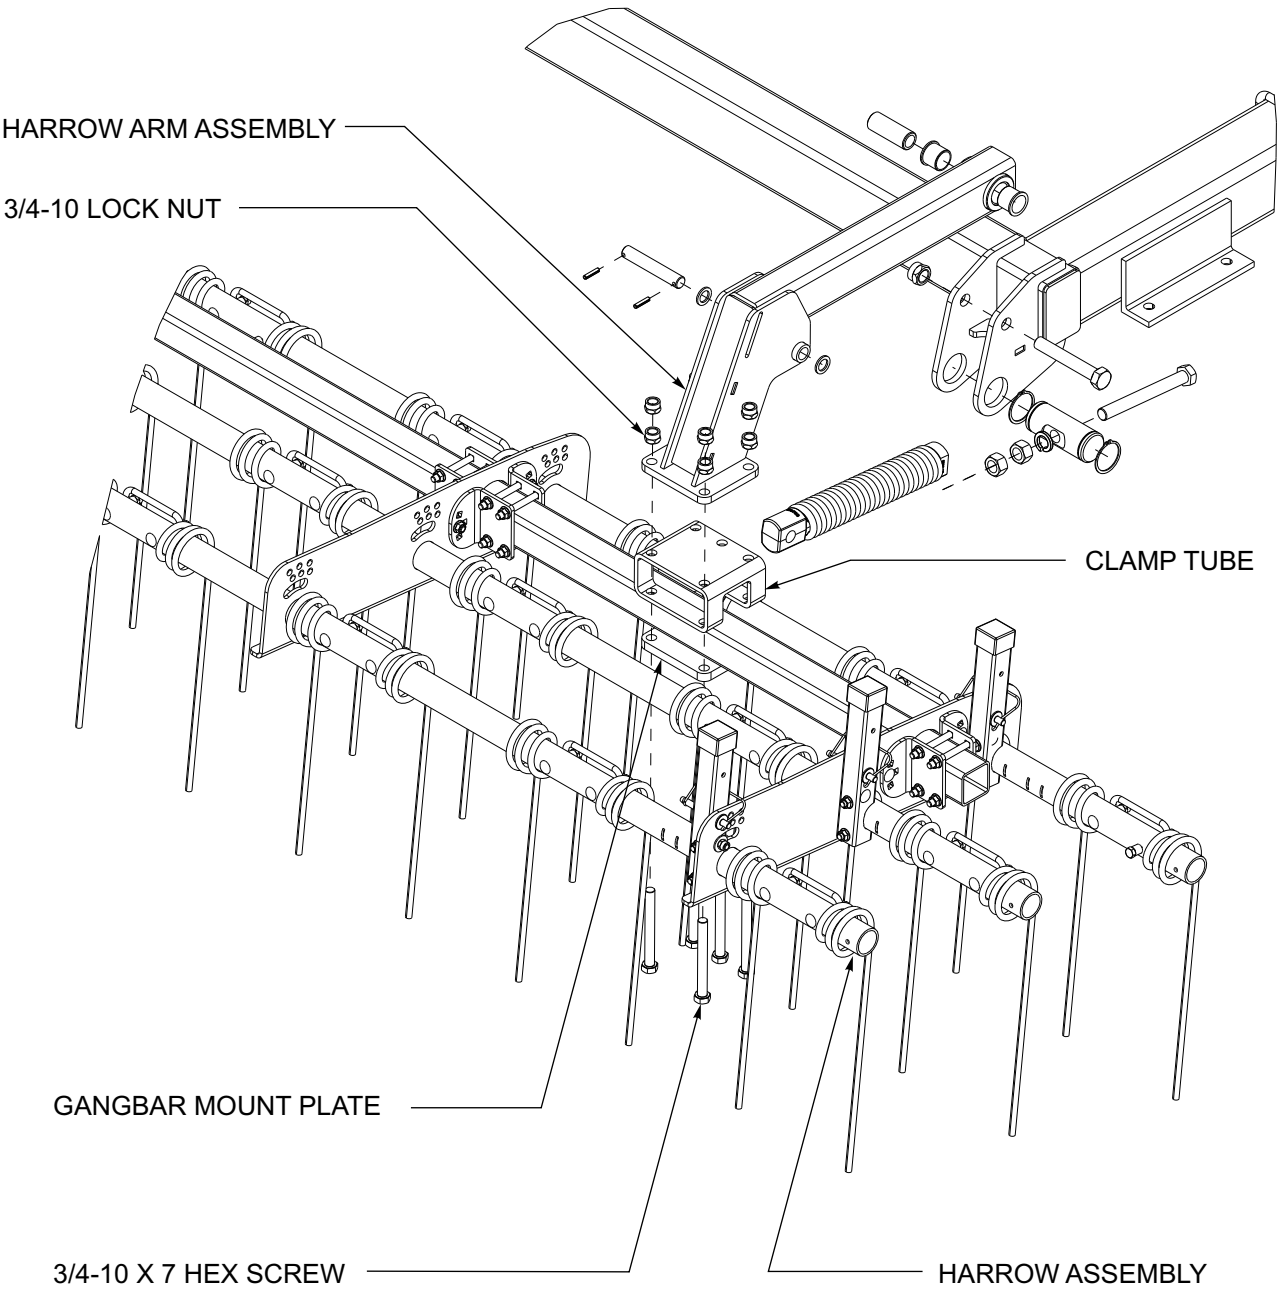

Figure 3-9: Coil Tine Harrow Installation
9. Mount the harrow sections to the bottom of the reel arms using gangbar mount plates, clamp tubes, 3/4-10 x 7 screws, and 3/4-10 locknuts. Install a second 3/4" locknut on the mounting bolts to secure the clamps (**See Figure 3-9.**)
8. Turn the 1-8 x 9 adjusting bolts to set the reel to the desired operating height. Secure the 1" nut and lock washer against the 2-1/2 dia pin. Lock the other 1" nut again the front end of the spring. Repeat for each conditioner reel arm and set all spring lengths the same for even reel heights (**See Figure 3-9.**)